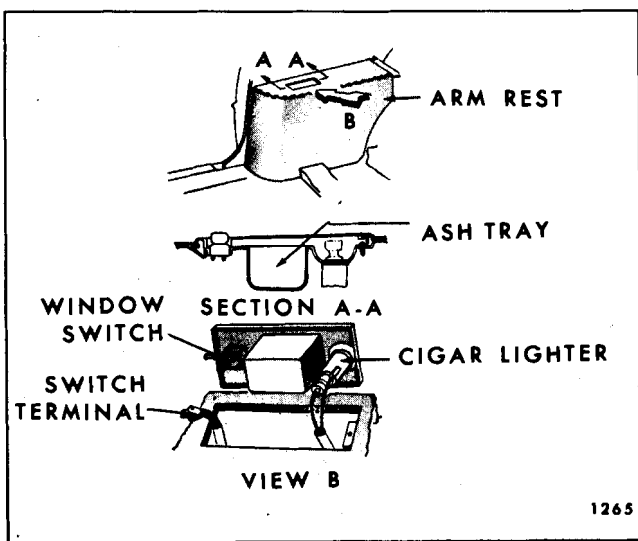

Fig. 13-19-Quarter Arm Rest Ash Tray and Electric Switch Plate (Hardtop Styles)
4. Where present, detach electrical wiring and remove arm rest (View "B" Fig. 13-19).